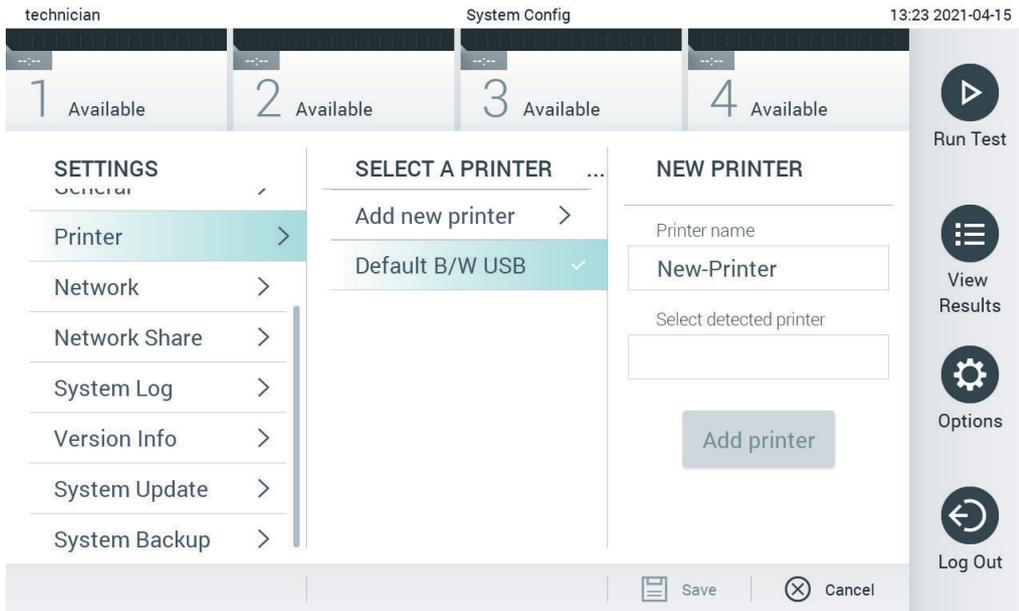

Figure 100. Printer installation with driver installation
5. Click on **Add Printer** (Figure 100, next page).